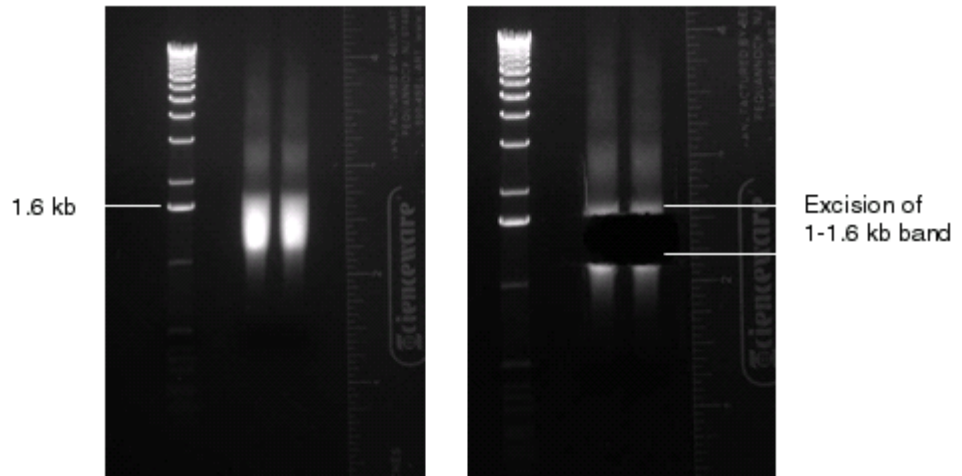

Figure 11 Excision of 1-1.6 kb range in a 1.0% agarose gel.
7. Using the ladder bands and the ruler for reference, excise the band of the gel corresponding to the insert size range of interest with a clean razor blade (see Figure 11 on page 62). If desired, take a tighter cut for a tighter size selection. If the gel piece is large, slice it into smaller pieces.